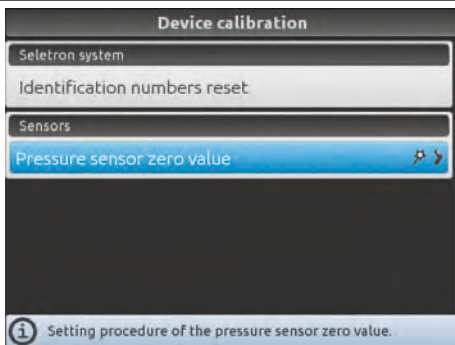

Fig. 134
- 1 Select **Pressure sensor zero value** (Fig. 134) and press **OK**.